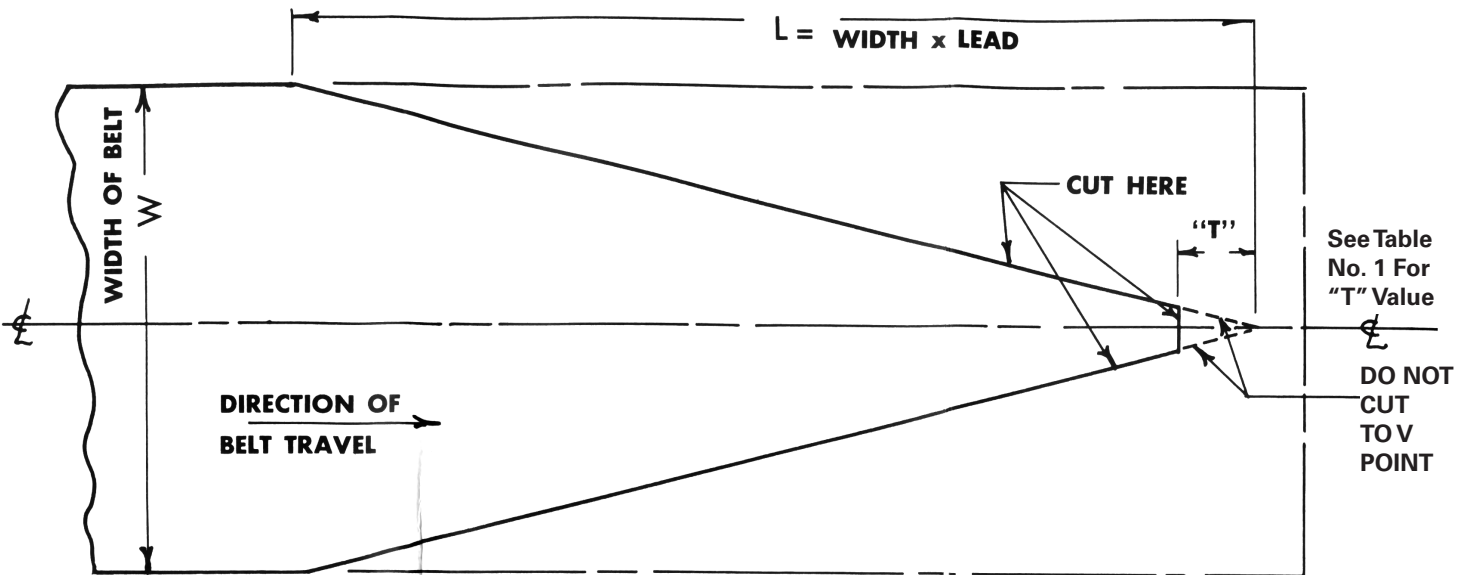

Fig. 2
4. Layout and cut TRAILING END of belt into Wedlok Splice V-shape as per cutting diagrams, Fig. 4 and Fig. 2. Use a No. P2P Flexco punch for hand operation or an HP2 Flexco punch for power application and punch holes at corners of tip as shown. These holes facilitate in cutting the splice at the tip.